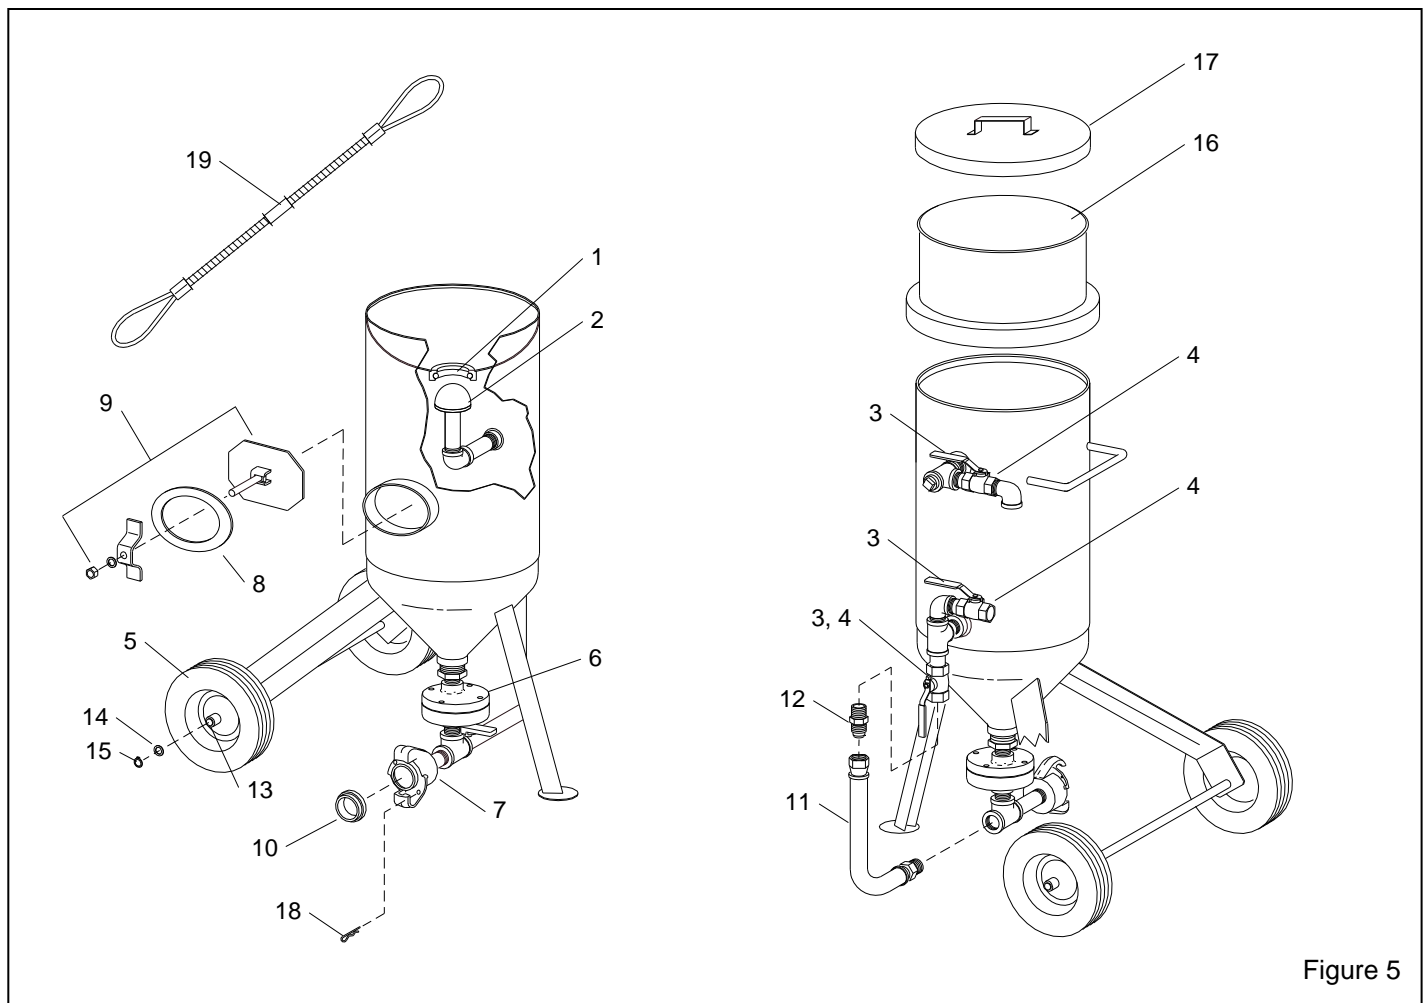

Figure 5
7.3 Blast Machines, Replacement Parts and Accessories, Figure 5